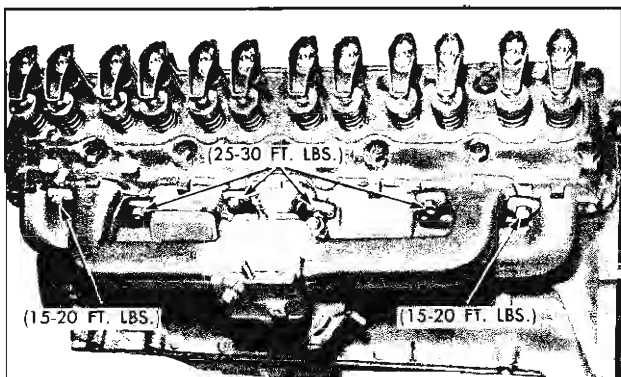

Fig. 4—Manifold Torque Sequence
3. Tighten center clamp bolts to 25-30 ft. lbs. and end bolts to 15-20 ft. lbs. (fig. 4).